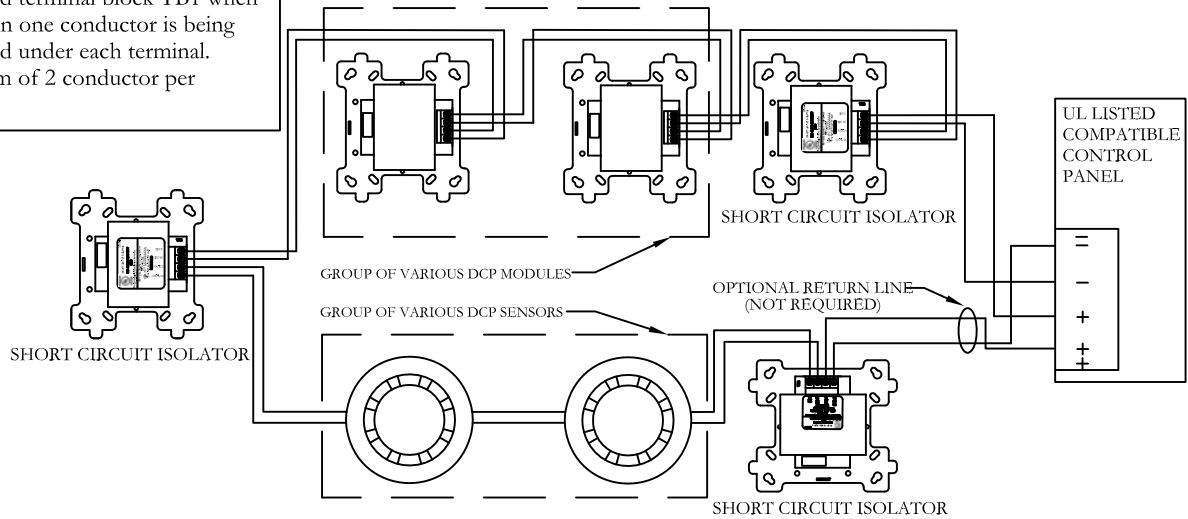

FIGURE 3
1. Install module wiring in accordance with the job drawings and appropriate wiring diagram (Fig.3).